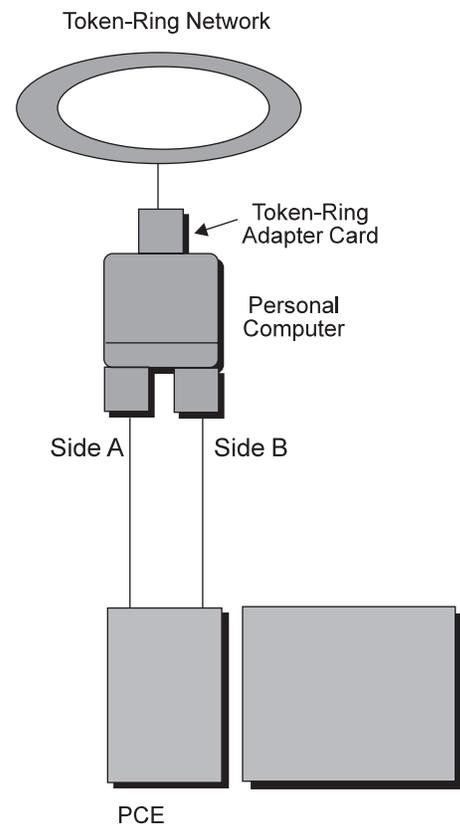

Figure 27. Partitioned Primary System Console Connections
*Physically Partitioned 9021 and 3090 System Console Connection:* Figure 27 shows the primary system console connections to both sides of physically partitioned 9021 and 3090 processors.